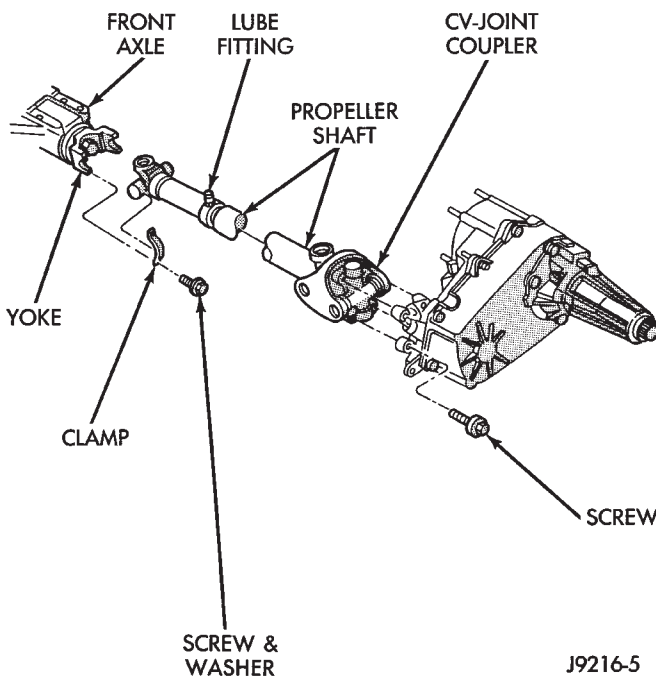

Fig. 12 Front Propeller Shaft
- (1) Shift the transmission and transfer case to their neutral positions. Raise and support vehicle. Remove skid plate, if equipped.
- (2) Using a suitable marker, mark a line across the yoke at the transfer case, the link yoke, and propeller shaft yoke at the rear of the front propeller shaft for installation reference.
- (3) Mark a line across the propeller shaft yoke and the pinion shaft yoke for installation reference.
- (4) Remove the universal joint strap bolts at the pinion shaft yoke (Fig. 12).
- (5) Remove the bolts holding the propeller shaft to the transfer case yoke.
- (6) Remove the propeller shaft.